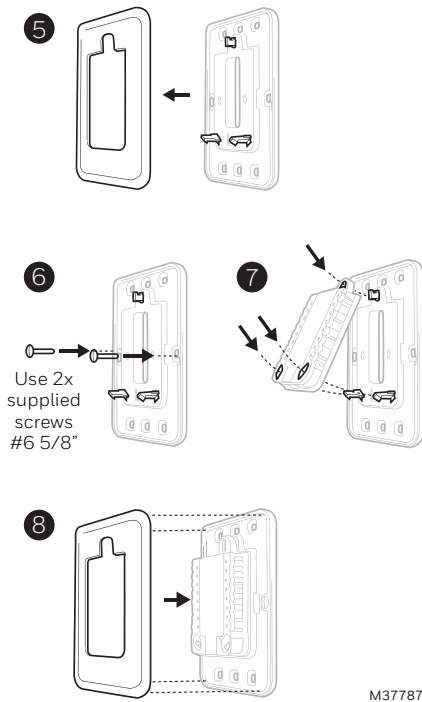

Fig. 11.
5. Separate the Junction Box Adapter from the Cover Plate. See Step 5 in Fig. 11.
6. Mount the Junction Box Adapter to the wall or an electrical box using any of the eight screw holes. Insert and tighten mounting screws supplied with Cover Plate Kit. Do not over-tighten. Make sure the Adapter Plate is level. See Step 6 in Fig. 11. Use 2x supplied screws #6 5/8”.
7. Attach the UWP by hanging it on the top hook of the Junction Box Adapter and then snapping the bottom of the UWP in place. See Step 7 in Fig. 11.
8. Snap the Cover Plate onto the Junction Box Adapter. See Step 8 in Fig. 11.